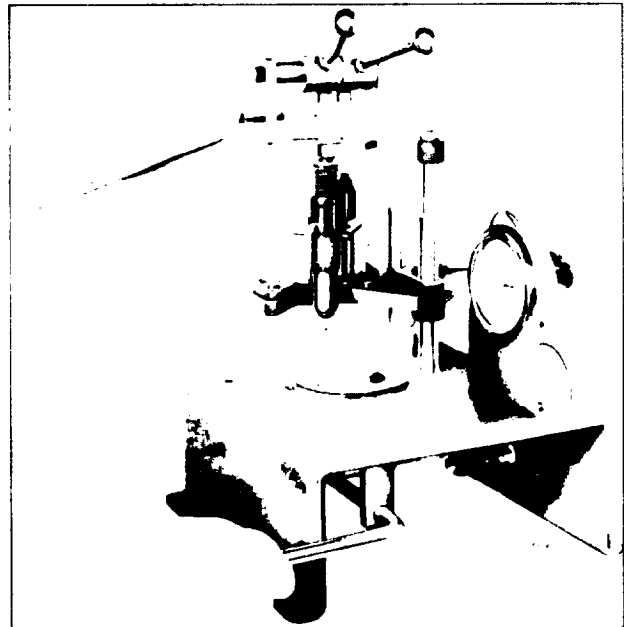

Fig. 9 Injector High Pressure Test
4. With the injector rack in the full-fuel position and the injector tester handle locked in position by means of the handle lock (Fig. 9), operate the pump handle to build up and maintain the pressure.